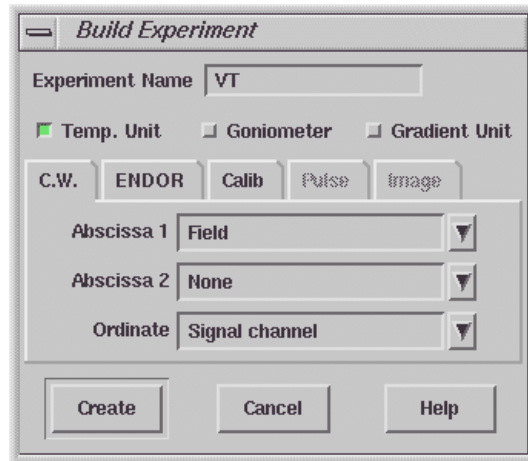

Figure 12-7 Defining an experiment using a temperature controller.
4. **Define an experiment that uses the temperature controller.** Create a new experiment with the Temp. Unit button activated (green). (See Figure 12-7.) Open the Acquisition Parameters dialog box where you will find the VTU folder. This folder allows you to set the temperature after you click the **Activate** button. For the ER 4131 VT controller there is another sub-folder that gives you remote control of many controller parameters such as gas flow and N2 evaporator boiler power. (See the ER 4131 VT User's manual for details.) For the ER 4121 VT and ER 4111 VT controllers you can set the temperature but you need to manually control other controller operating parameters.